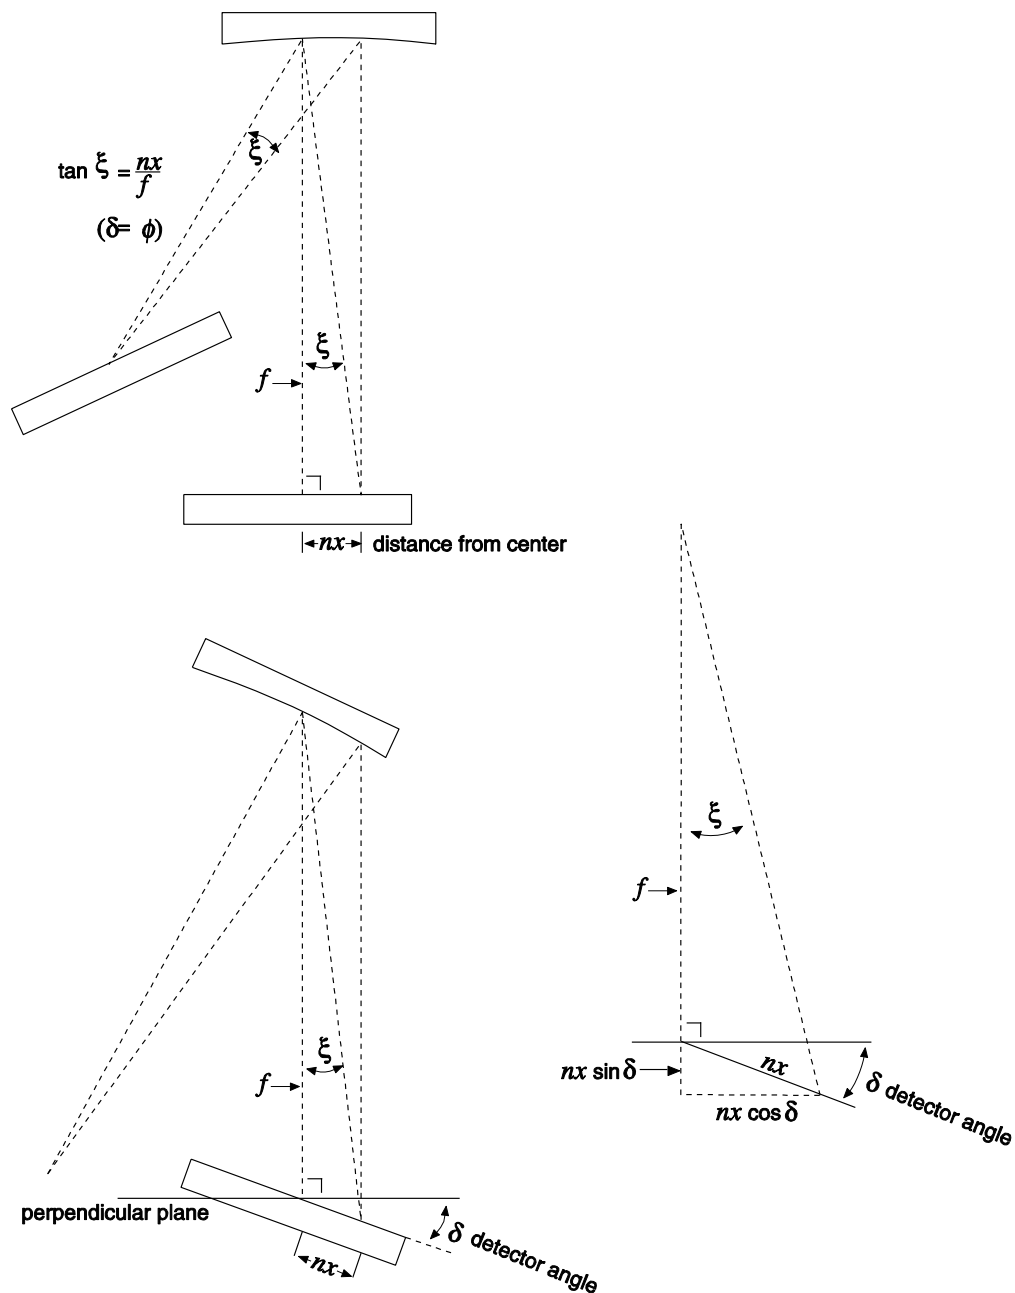

Figure 207. Relationship between ξ and the focal length, detector angle, and the distance of λ' from image plane
Note that the wavelength at the **center** of the exit plane does not depend on the focal length, f . However, the wavelength at points off center depends on both the focal length and the detector angle, δ (the angle of the image plane relative to the plane perpendicular to the spectrograph focal axis at the center of the image plane; see Figure 207). For some wavelength λ' relatively close to λ (at the same grating angle),
$$\tan \xi = (n\mathbf{x} \cos \delta) / (f + n\mathbf{x} \sin \delta), \text{ as shown in Figure 207.} \quad (4)$$